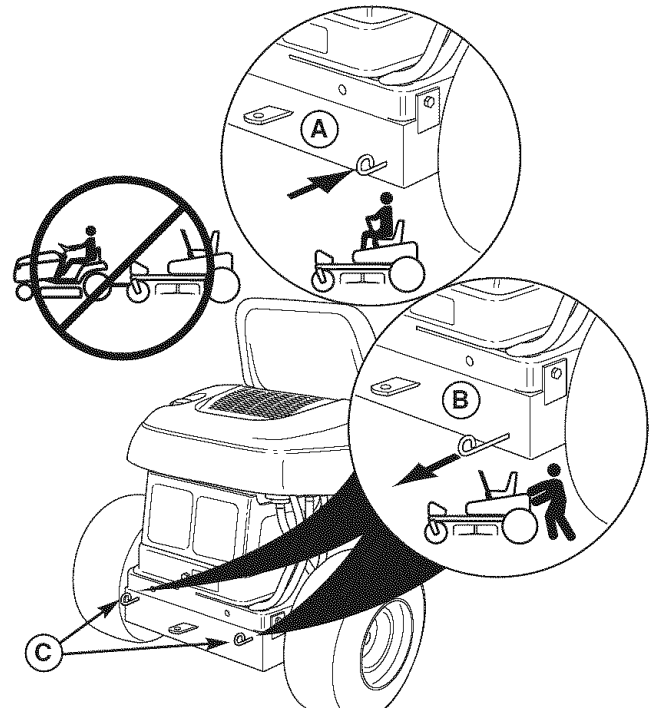

Figure 3. Transmission Release Levers
2. Locate the transmission release levers (C, Figure 3) at the rear of the unit.
3. Pull **both** levers back and down to release the transmissions (position B, Figure 3).
5. After moving the rider, set the ground speed control levers to PARK and push **both** transmission release levers forward to re-engage the transmissions (position A, Figure 3).